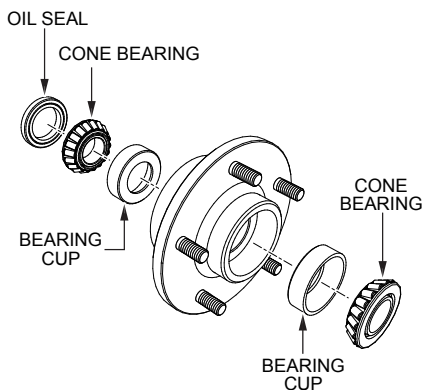

Figure 43. Wheel Hub and Bearings
1. After **every 3 months** of operation, remove the hub dust cap and inspect the wheel bearings (Figure 43). Once a year, or as needed, disassemble the wheel hubs and remove the old grease. Then repack the bearings, forcing grease between the rollers, cone and cage with a good grade of high-speed wheel bearing grease. **NEVER** use grease heavier than 265 ASTM penetration ('No. 2').
2. Fill the wheel hub (Figure 43) with grease to the inside diameter of the outer faces and also fill the hub grease cap.